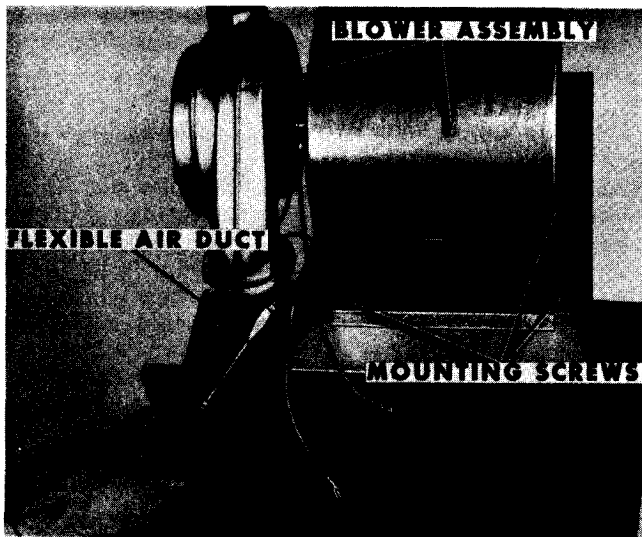

Figure 23 – Disconnecting Flexible Duct from Blower
2. Disconnect flexible air duct from blower assembly (Figure 23). Disconnect blower motor electrical leads.
7. Install blower assembly to furnace with three mounting screws (Figure 23). Connect blower electrical leads and flexible air duct.